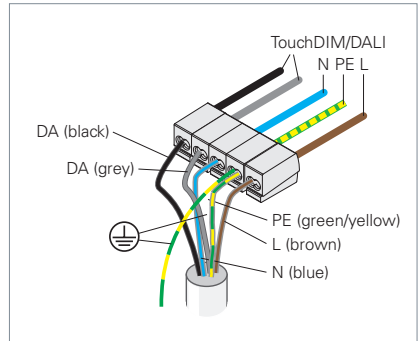

Fig. 16: Connecting the luminaire.
- ▶ Connect the grounding cable at the connection side of the luminaire to the protective earth conductor terminal, see Fig. 16.